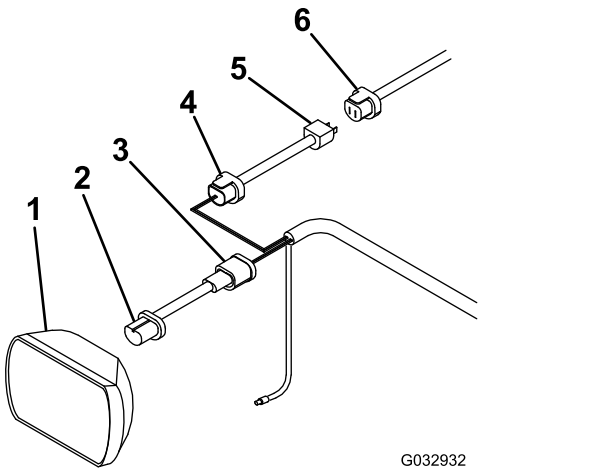

Figure 26
1. Disconnect the wire harness plug from the back of the left vehicle headlight (Figure 26).
2. Connect the headlight adapter to the back of the left vehicle headlight (Figure 26).
3. Connect the black plug from the headlight adapter to the long wire harness (Figure 26).
4. Connect the blue plug from the headlight adapter to the blue plug on the long wire harness (Figure 26).
5. Connect the free end of the headlight adapter to the previously disconnected plug on the vehicle wire harness (Figure 26).